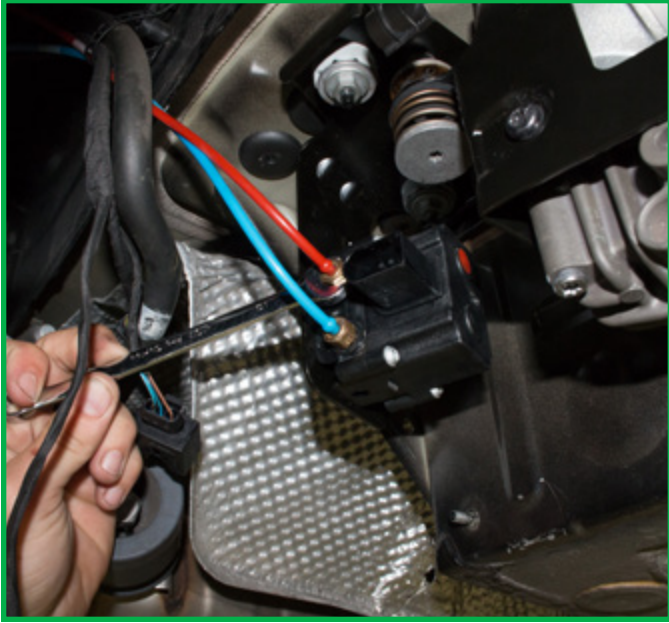

FIGURE 7
6. Disconnect the red and blue air lines from the valve block (Note: black line does not have to be disconnected). (Figure 7, 8)